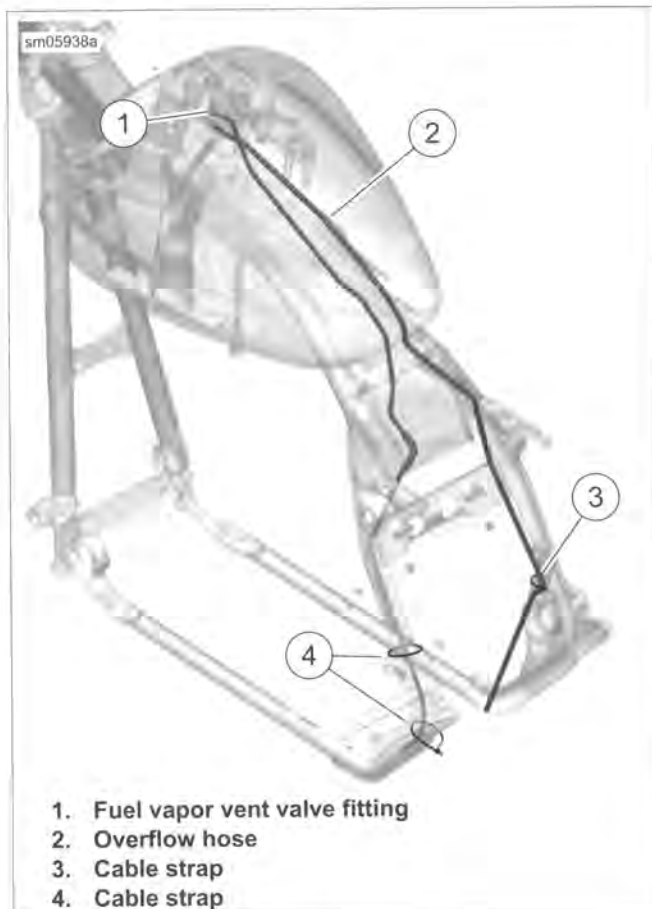

Figure 4-9. Vent Tube
6. See Figure 4-9. Connect fuel vapor vent tube to vapor valve fitting (1) on top plate.
7. If equipped, connect overflow hose (2) to top plate and route along inner downtube as shown. Secure to brake line with cable strap (3). Do not over-tighten cable strap.
3. See Figure 4-9. Remove vapor tube from fitting (1) on fuel tank top plate.
4. Remove two cable straps (4) securing tube to rear frame downtube.
1. See Figure 4-9. Route tube down along inner side of rear left downtube. Install two cable straps (4) to secure to frame.
2. Route line along center of fuel tank and connect to fitting (1) on fuel tank top plate.